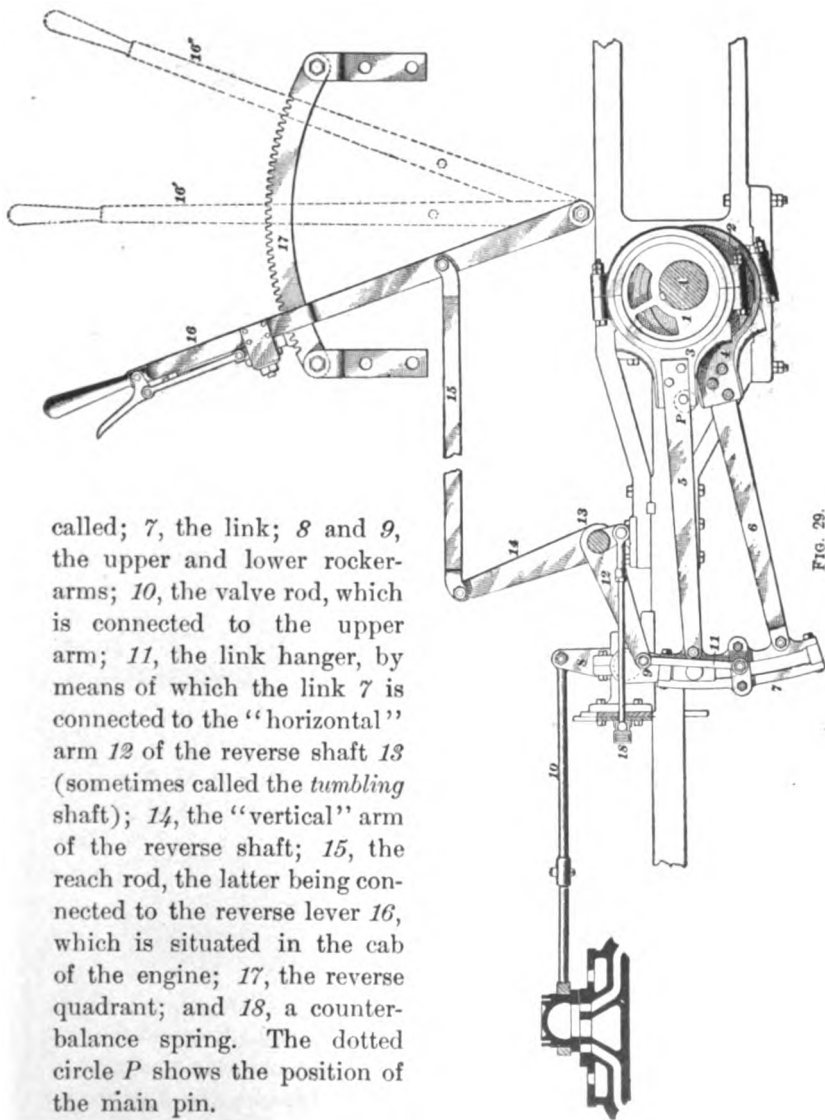
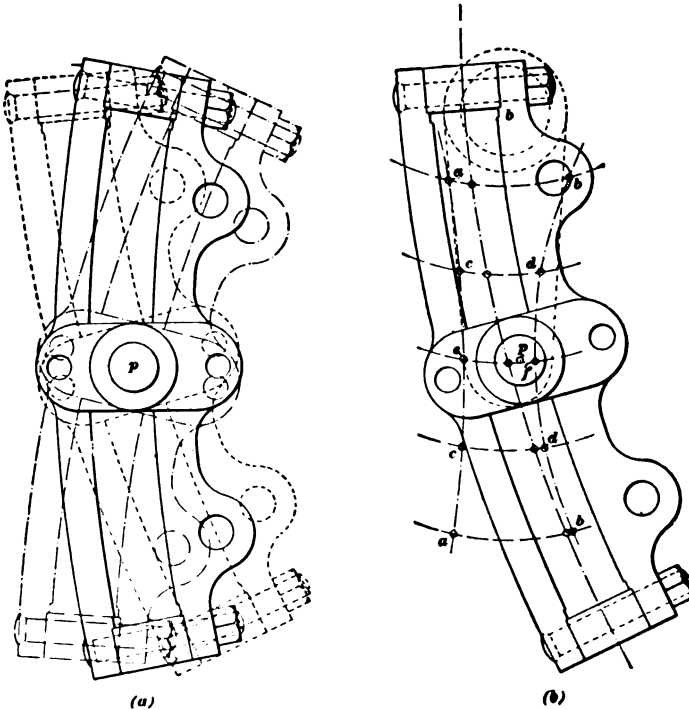

FIG. 29.
FIG. 36.
**31.** A view of the right-hand valve gear of a locomotive, as it would appear under the engine when looking at it from the left side, is shown in Fig. 29. Since the valve gear on the left-hand side of the locomotive is an exact duplicate of the right-hand gear, with the exception that they are pairs (i. e., are made rights and lefts), a description of the latter will suffice.
(marked 9, Fig. 29) by means of the pin bolt *P* and the nut *n*, the link block being free to turn on the pin. The curved line *xy*, drawn through the center of the slot, is called the **link arc**. This link arc is part of a circle, and the **radius of the link** is equal to the radius of this circle. The radius of the link is generally taken equal to the distance between the centers of the link-block pin and the eccentric when the engine is in full gear, in which position the link-block pin is directly opposite the end of the eccentric rod.
39. By referring to Fig. 29, it will be seen that one eccentric rod 5 is connected to the top end, and the other 6 to the bottom end, of the link. The eccentric of the rod marked 5 is so set on the driving axle (relative to the main pin) as to cause the forward movement of the engine; hence, it is called the **forward-motion**, or **go-ahead**, eccentric; the eccentric of the rod marked 6 is so set as cause the backward movement, and, consequently, is called the **backward-motion**, or **back-up**, eccentric. The link block being connected to the lower rocker-arm 9, remains stationary with respect to the rocker, but the link can either be raised or lowered from its mid-position by
means of the tumbling shaft operated by the reverse lever. When the reverse lever is moved to the forward corner (as far forward on the quadrant 17 as possible), the tumbling shaft is moved so as to lower the link to the position shown in Fig. 29, in which position the link block is directly opposite the end of the go-ahead eccentric rod 5 and receives its motion direct from that rod, consequently it moves with the rod. The movement thus given to the rocker causes the slide valve to admit steam to, and exhaust steam from, the cylinder in such a manner as to make the engine move forwards. When the reverse lever is placed in the back corner (the position shown by the dotted lines 16'', Fig. 29), the link is raised until the end of the back-up eccentric rod is directly opposite the link block. The rocker then receives its motion direct from the back-up eccentric, so that the slide valve is caused to reverse its motion and admit steam to, and exhaust it from, the cylinder in such a manner as to make the engine move backwards.
When the reverse lever is in the forward corner and the link block is in a position opposite the end of the go-ahead eccentric rod, as in Fig. 29, the engine is said to be in **full gear forward**; when the reverse lever is in the back corner and the link block is opposite the end of the back-up eccentric rod, the engine is said to be in **full gear backward**. When the reverse lever is moved to the middle position (marked 16', Fig. 29), the link is raised until the link block is at the middle point of the link and midway between the ends of the go-ahead and back-up eccentric rods. In this position the engine is said to be in **mid-gear**. If the link block is half way between mid-gear and full gear, the engine is said to be in half gear forward or backward, depending on whether the block is above or below mid-position.
The motion that the link derives from the eccentrics is somewhat complex. Being suspended by the link hanger 11, Fig. 29, the link is made to oscillate about the saddle pin *p*, as shown in view (*a*), Fig. 36, while at the same time it also swings like a pendulum on the link hanger, this latter movement making the link-block pin move in the arc of a circle a short distance on either side of its center position, as indicated in view (*b*), Fig. 36. Now, if the valve gear were to be placed in mid-gear, the link-block pin, and hence the end of the lower rocker-arm, would travel back and forth a distance equal to that between the points *e* and *f*, view (*b*), and the slide valve would be moved back and forth on its seat a corresponding distance. If the valve gear were to be placed in full gear (either forwards or backwards), the link-block pin and, hence, the end of the lower rocker-arm, would travel back and forth a distance equal to that between the points *a* and *b*, which, neglecting the slip of the link block in the link, is equal to the throw of the eccentric, and the slide valve would be moved on its seat a corresponding distance. If the valve gear were to be placed in half gear (either forwards or backwards), the link-block pin and the end of the lower rocker-arm would move back and forth a distance equal to that between the points *c* and *d*, and the valve would have a corresponding travel on its seat. It will thus be seen that: when the engine is in mid-gear the valve will have the least travel; the valve travel will be increased by moving the reverse lever toward either corner, or decreased by moving it toward mid-gear; and the travel of the valve is greatest when the engine is in full gear; hence, moving the reverse lever toward the corner increases the cut-off, while moving it toward the center of the quadrant (hooking her up), decreases the cut-off. It will be observed, also, that with the link block in any position in the link above mid-position, the engine will move forwards; while with the link block below mid-position, the engine will run backwards.